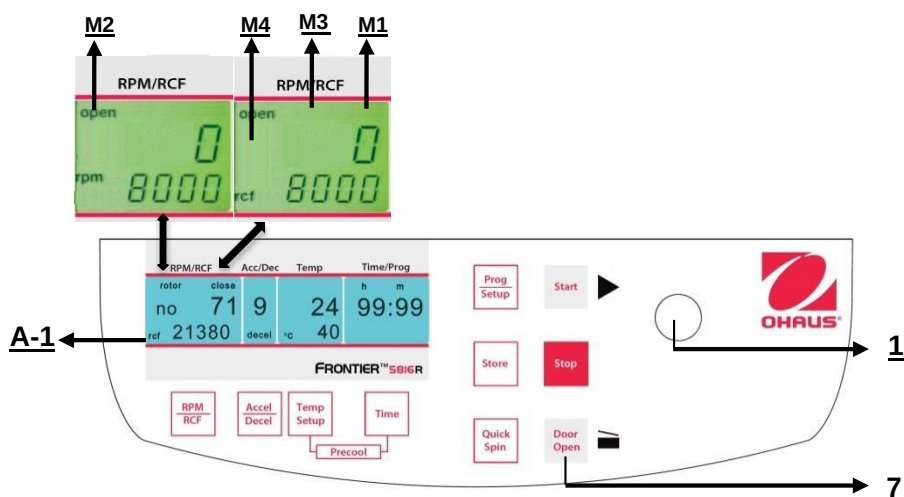

Figure. 18
After the run, when the lid of the centrifuge is closed, the word "close" (M1) appears in the display "RPM | RCF" (A-1). Additionally, if there is a rotor in the centrifuge, the word "rotor"(M3) appears as well as the code number of the respective rotor, which is in the centrifuge system "71" (M4). If there is no rotor in the centrifuge, the word "rotor" (M3) flashes and additionally the word "no" (M4) appears. By pressing the key "Door Open" (7) you can release the lid of the centrifuge. As soon as the electromagnetic lid is completely released, the word "open" (M2) appears. Now you can open the lid of the centrifuge. Please refer to figure 18 below for reference.